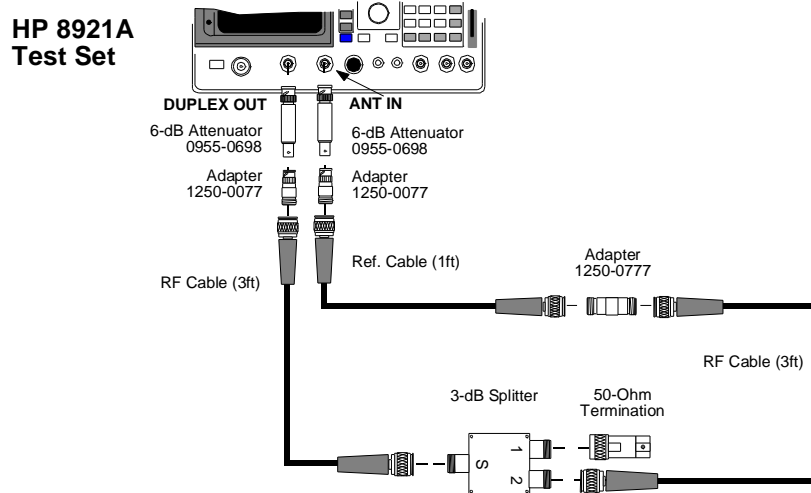

Figure 57
Any external equipment associated with your RX path such as a duplexer, splitter, or RF cable. See figure 56 on page 88 and figure 57 on page 89 for RX path diagrams.
- 7 Disconnect one end of the reference cable from the 6-dB pad and insert the equipment associated with your RX path. *Figure 56 on page 88* and *figure 57 on page 89* show the connection diagrams for each base station configuration A, B, and C.
Notice that the RX path diagrams in *figure 56* and *figure 57* do not include the 30-dB attenuator normally associated with the RX path. It has been removed to ensure accurate results. See the EXPECTED PATH LOSS VALUES warning below for more information.